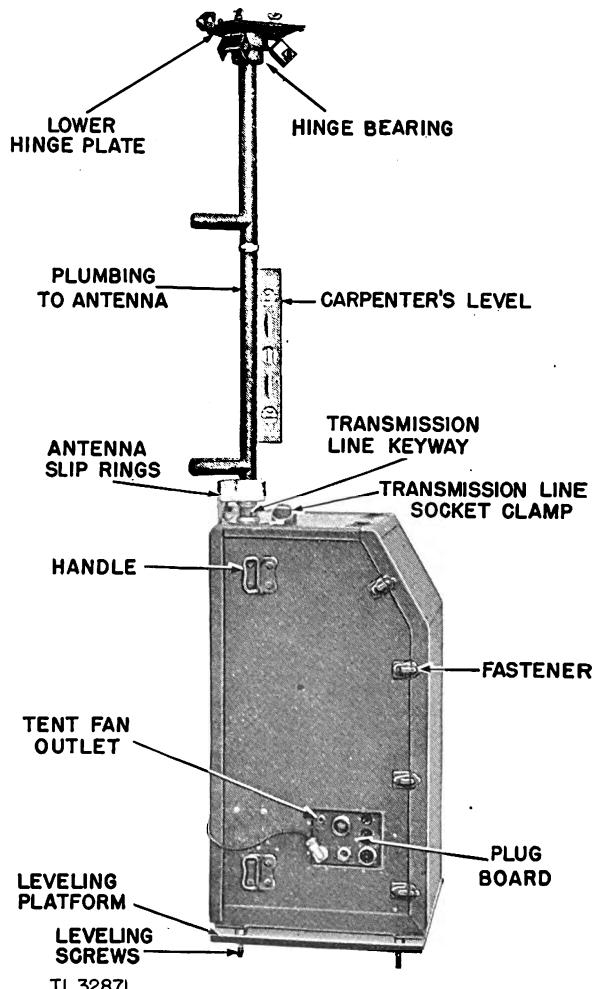

Figure 22. Console in the leveling position.
- (a) The plug board (fig. 22) for:
- (i) The handle hinges and fasteners of the console for cleanliness. Make sure the handle hinges and fasteners are properly lubricated with vaseline (fig. 22).
- (m) The console for leveling (fig. 22).
(2) FINAL WORK: